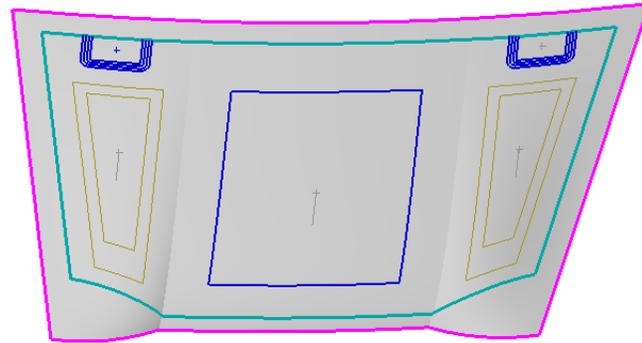

Figure 8–2
1. Open **DESIGN_AND_DOC_A.prt**. The model displays as shown in Figure 8–2.
2. Show the **CROSS_SECTION_CURVE_1** and **CROSS_SECTION_CURVE_2** layer categories as shown in Figure 8–3. These curves determine where on the Tool Surface the cross-section will be created. The curves have been created on the Tool Surface. The Tool Surface is the skin for the Hood laminate on which the cross-section will be generated.